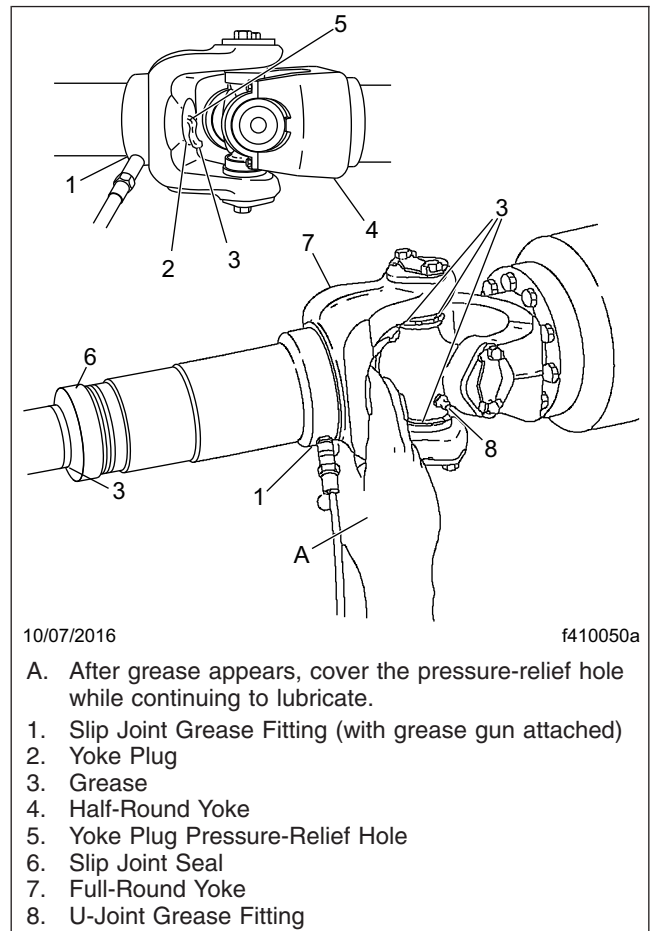

Fig. 5, Slip Joint and U-Joint Lubrication
9. For driveshafts with slip joints, check to be sure the yoke plug is not loose or missing. See Fig. 5. Repair or replace the yoke plug as needed. If the yoke plug is missing, the splined shaft may be hitting the plug and knocking it out; contact your Regional Service Office for assistance in determining the correct driveshaft length.
2. Wipe all old grease and dirt from each U-joint grease fitting. See Fig. 5.
1. If equipped with a grease fitting, wipe all old grease and dirt from the slip joint grease fitting. See **Fig. 5**.
2. Use a hand-type grease gun or a high-pressure gun with a low-pressure adapter, to lubricate the slip joint. Add multipurpose chassis grease (lithium 12-hydroxy stearate, NLGI Grade 2, with EP additives) until it appears at the pressure-relief hole in the yoke plug. Then cover the relief hole with your finger, while continuing to apply gun pressure until new grease appears at the slip joint seal. See **Fig. 5**. This ensures complete lubrication of the splines.